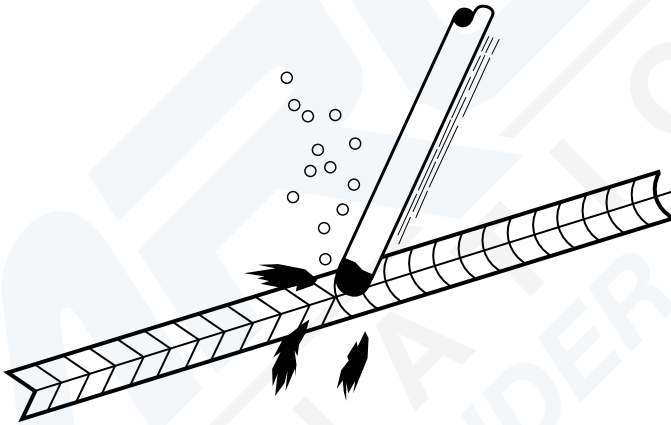

Figure 8: Crack Repair
- Cracked butt or seam welds can be grooved for weld repair (Figure 8).